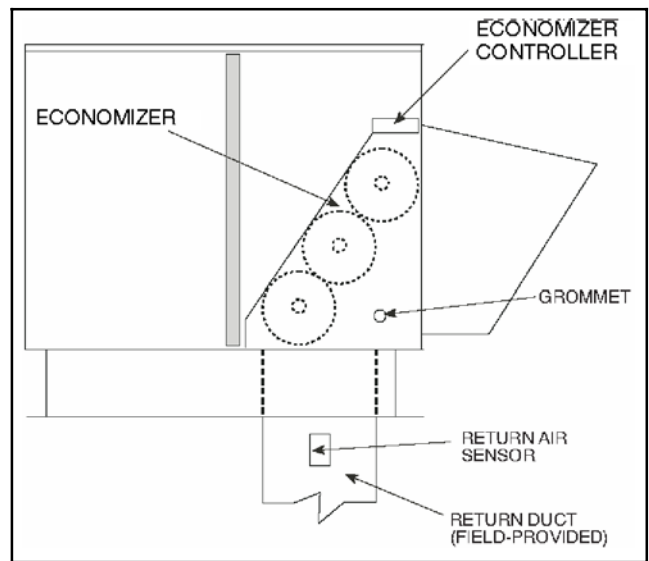

Fig. 8 - Return Air Enthalpy Sensor Mounting Location — PHH036-120, PGH/PAH036-120, PGE/PAE036-150
2. Using the screws provided in the DNENTDIF004A00 kit, mount the differential enthalpy sensor in the return air duct as shown in Fig. 8.